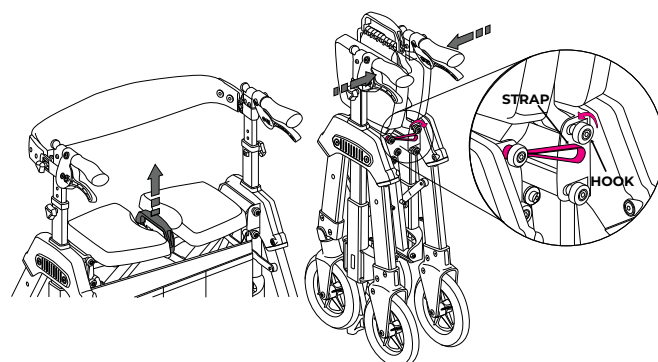

FIGURE 6
6. To close the rollator, pull up on the handle between the seat pads. Squeeze handles together, and secure the Strap onto the Hook as shown in FIGURE 6.